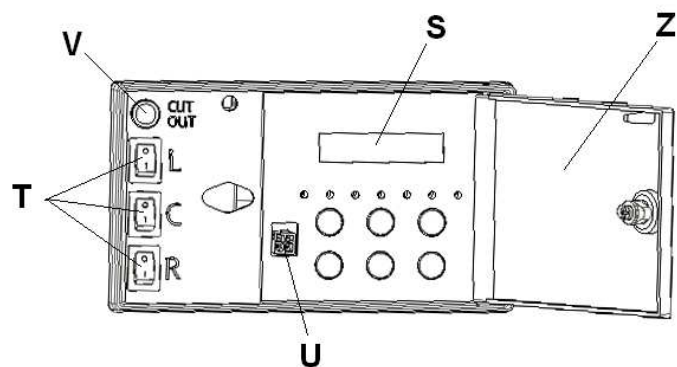

Fig. 11
- If necessary apply the calibrator/separator relative measuring cup H1 and push the related button on the command panel until both the soda water and the syrup run into the measuring cup separately (fig.11).